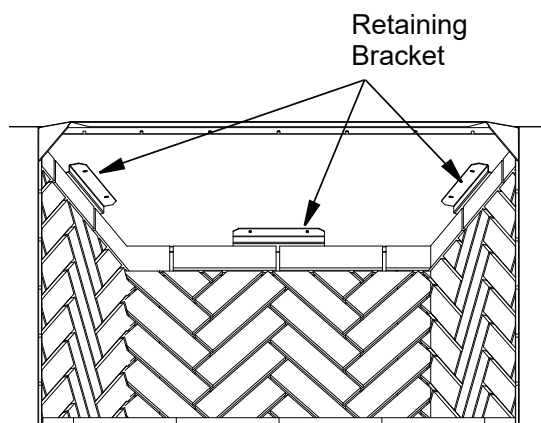

Figure 15 - Installing Side Walls
3. Secure the firebrick wall using 2 of the retainers provided. The bracket will slip underneath the metal lip on the top of the wall and screw into the inner dome of the fireplace (Figure 15).
4. Install the rear firebrick wall last. Place the wall face side down on the hearth with the bottom of the wall toward the rear of the firebox and the top toward the front of the fireplace. Tilt the wall up toward the back of the firebox. Secure with remaining retaining brackets provided (Figure 15).